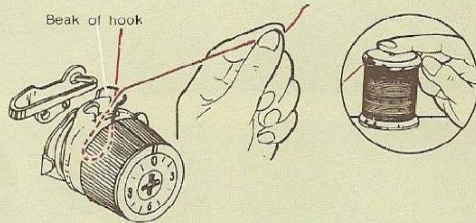

Fig 2
2. Holding the spool with the right hand, pull the thread through the tension discs. The spring wire loop should be pulled up until the thread passes beyond the beak of the hook. Fig. 2.